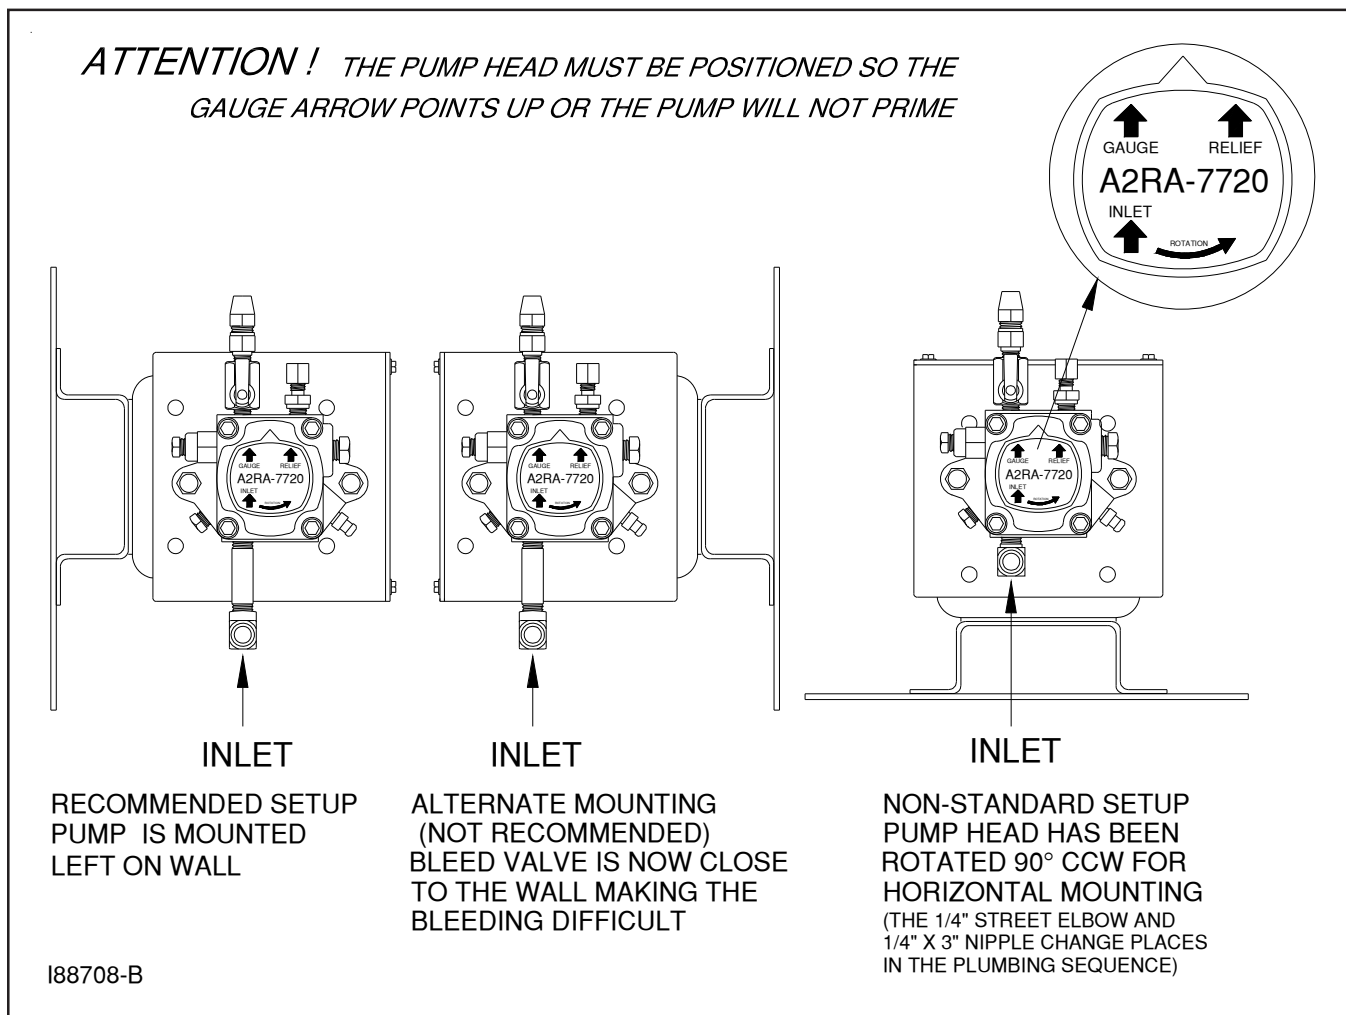

Figure 4I - Proper Positioning of Metering Pump Head
ATTENTION: If the metering pump is to be mounted horizontally or on a bracket as shown in Figure 4I, the pump head must be rotated counterclockwise so that it is aligned in a horizontal position. *The gauge arrow on the pump head must point up, or the pump will not prime.*
3. Rotate the pump head 180 degrees to the horizontal position as shown in Figure 4I.